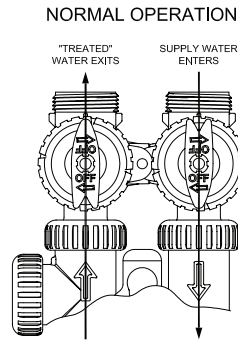

figure 1
1. Normal Operation Position: The inlet and outlet handles point in the direction of flow indicated by the engraved arrows on the control valve. Water flows through the control valve during normal operation and this position also allows the control valve to isolate the media bed during the regeneration cycle. (see figure 1)
When water is flowing steadily to drain without the presence of air, momentarily press **REGEN** again. Display will read **RINSE**. Open the outlet valve of the softener, or if using optional bypass place to **NORMAL OPERATION MODE** (see figure 1 on page 4). Allow control to finish the **RINSE** cycle. Allow the control to automatically advance to the **SOFTENING** position. Now load the brine tank with salt. Solar Salt is recommended. The brine tank salt level should be checked every couple of weeks to determine salt usage. Keeping the brine tank salt level at least 1/2 full is recommended.